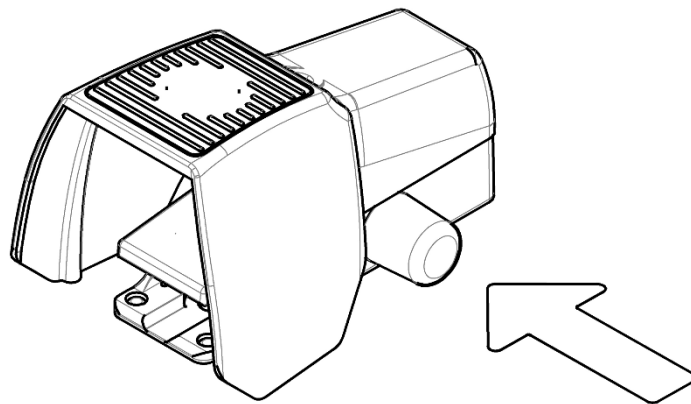

Fig. 3: Releasing the foot-operated switch
- If the emergency stop was activated via the foot-operated switch: release the foot-operated switch by pressing the blue silicone cover at the side (see fig. 3).